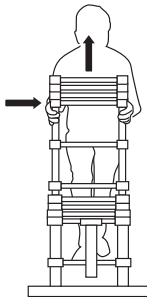

Fig. 1
4. Use both hands to grip the step that corresponds to the height you require (Fig. 1) and lift it upwards until the locking pins spring into position (Diagram 2 for the first step. Diagram 5 for the rungs).